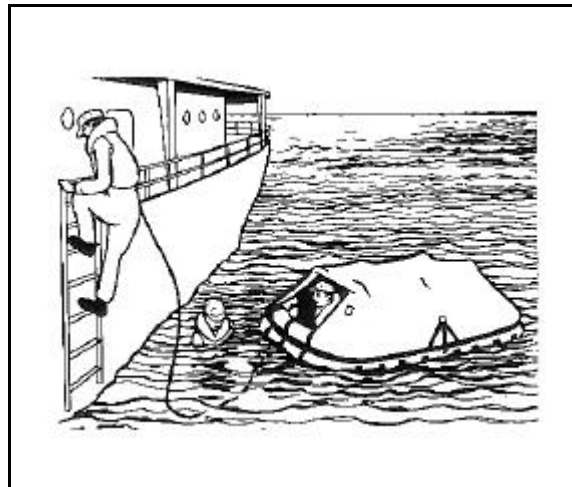

Figure 10-21. Boarding Life Raft
- **Step 7.** Board the life raft as soon as possible (Figure 10-21).